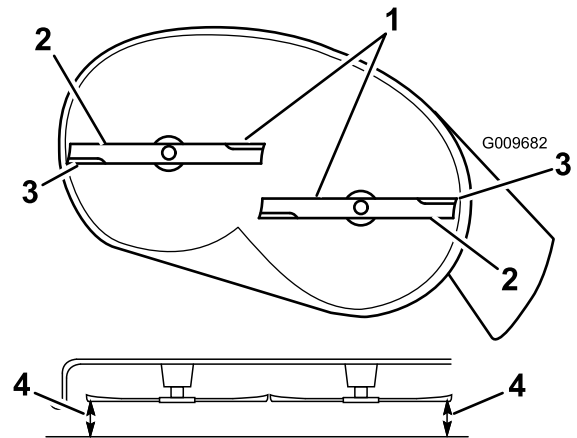
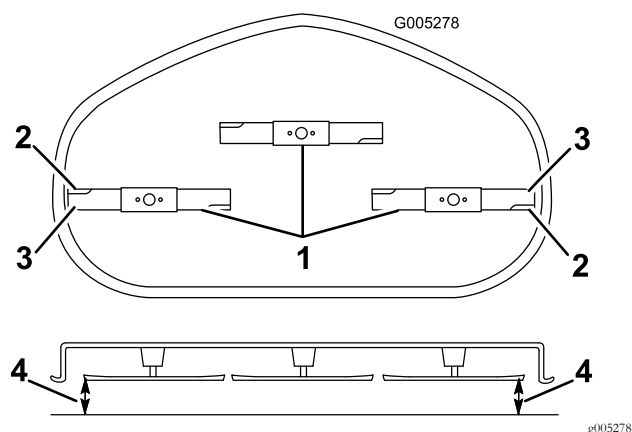

Figure 54
Figure 55
3. Carefully rotate the blades so that they are all side to side (Figure 54 and Figure 55).
4. Measure between the outside cutting edges and the flat surface (Figure 54 and Figure 55). If both measurements are not within 3/16 inch (5 mm), an adjustment is required; continue with this procedure.